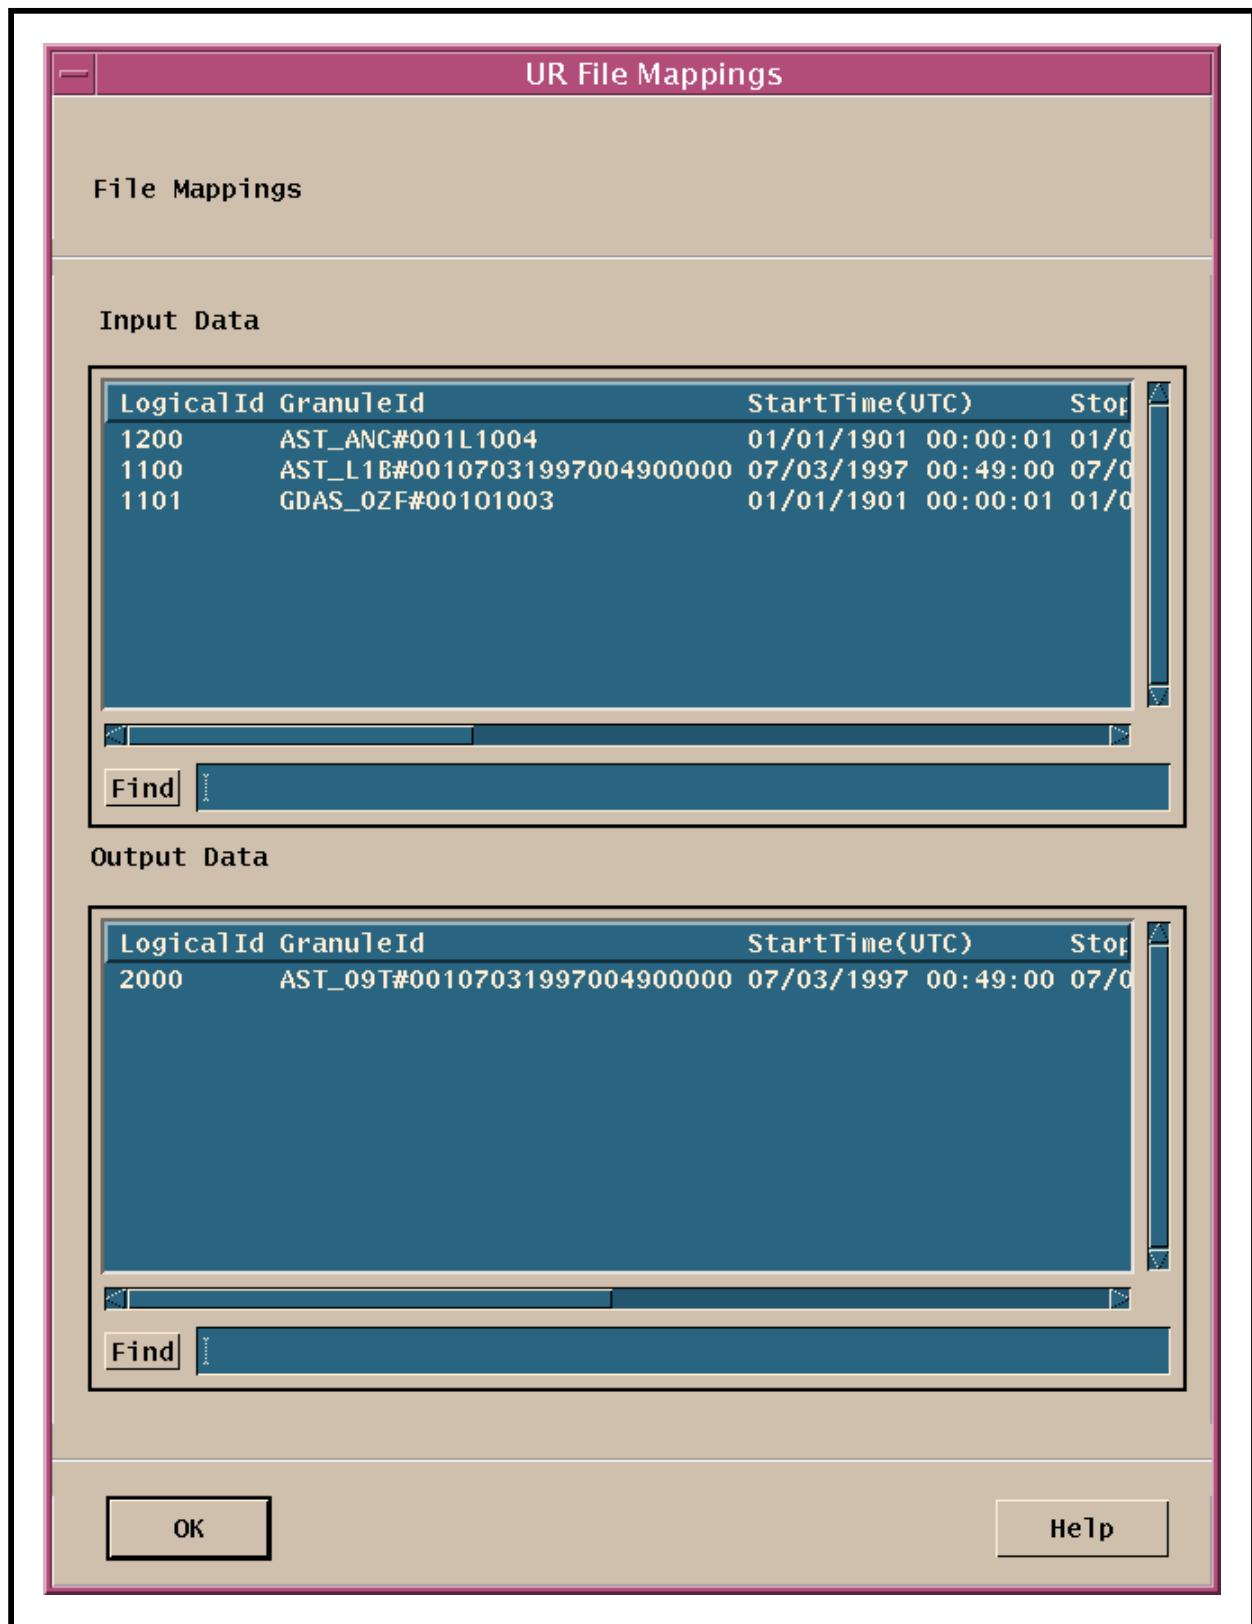

Figure 28. UR File Mappings GUI
- Displays the input and output files for a particular DPR on the **UR File Mappings** GUI (Figure 28)
- Logical ID - The identification (ID) or tag used within the PGE to access the file.
- The **UR File Mappings** GUI (Figure 28) is displayed.